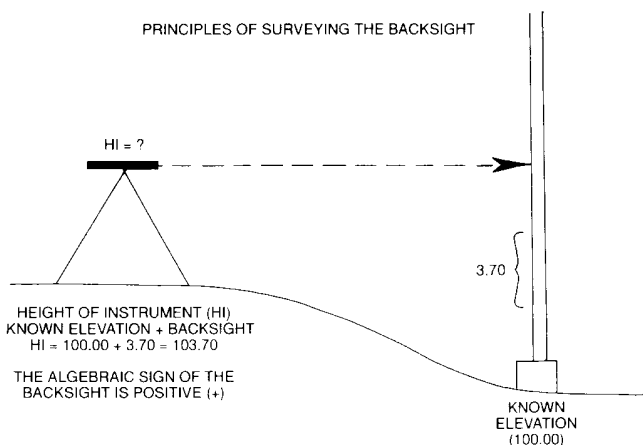

Figure 26. - Surveying the backsight.
The elevation of BM2 is found by differential leveling. Set the instrument up first at some point from BM1 along the route to BM2. Hold the rod on BM1 and note the rod reading (5.62) in the field notebook. This reading is a backsight (BS), or a reading taken on a point of known elevation (fig. 26).